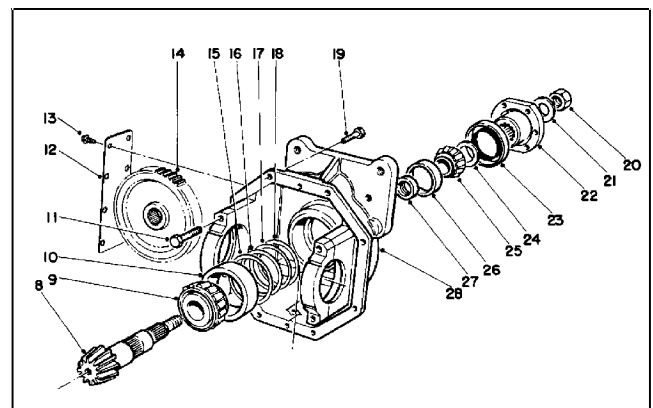

Figure 3C
9. If unit is equipped with 4WD, remove nut (Fig. 3C, Item 20), washer (Item 21) and flange (Item 22) from differential axle pinion (Item 8). Use Differential Gear Holder tool to gears when removing nut.
If unit is equipped with a flange for 4WD (no expansion plug), nut, washer and flange (Fig. 3C) must be removed before pressing pinion out of housing.
If unit was equipped with a flange for 4WD (no expansion plug), remove oil seal from housing (Fig. 3C).